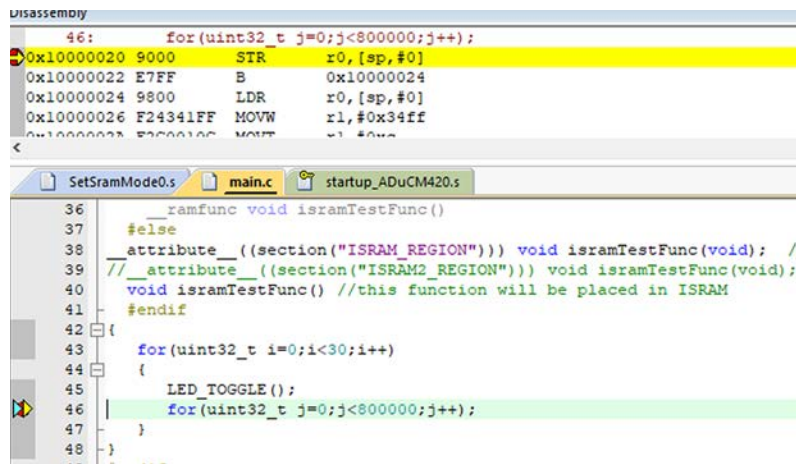

Figure 38. Flash Configuration Setup
4. Running the settings in Figure 38 shows that the ISRAM is placed in debug mode via the **Disassembly** window.